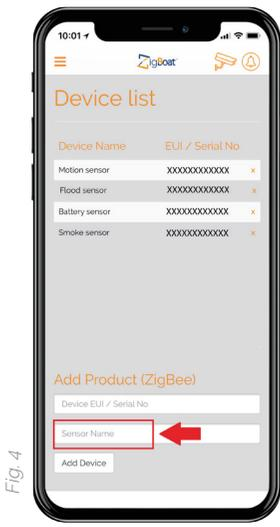

Fig. 4
3. You can change the devices name by selecting "Name" (fig. 4). Then, press the button "Add Device".